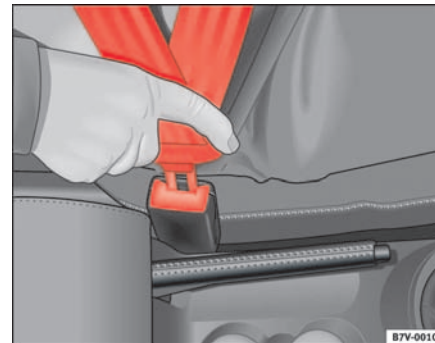

Fig. 10 Belt buckle and latch plate of seat belt
- Insert the latch plate into the buckle for the appropriate seat and push it down until it is securely locked with an audible click ⇒ page 22, fig. 10.